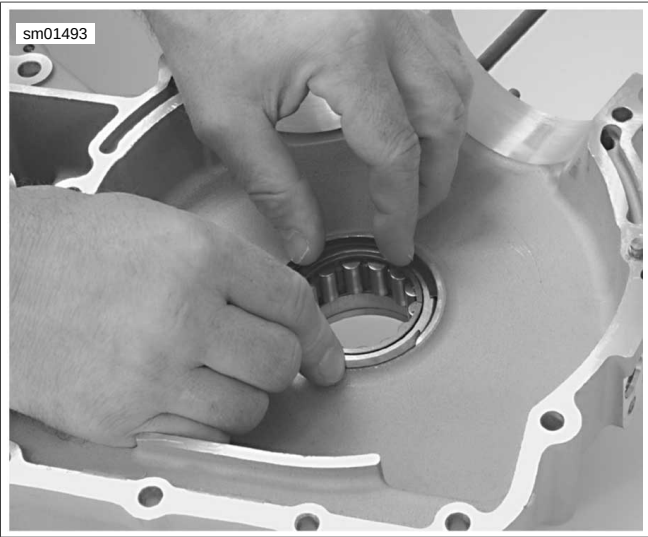

Figure 3-154. Removing Left Main Bearing Retaining Ring
7. See Figure 3-154 and Figure 3-151. Remove left main bearing retaining ring (7) from the inside of the left crankcase (5).